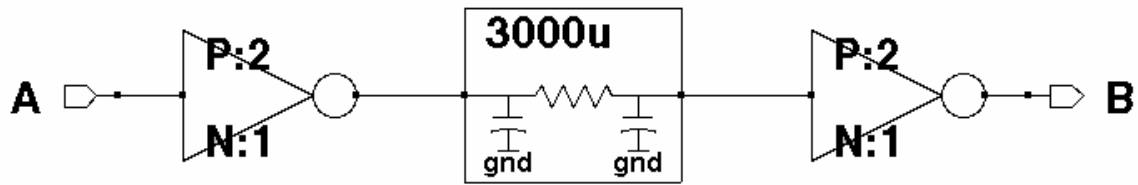

Figure 2.
3. This problem is designed to explain the concept of **buffer insertion**. Design the circuits shown in Figures 2, 3 and 4 in **sue only** and simulate them using their respective testbenches. Use a pulse voltage source at the input terminal in all the testbenches. **Measure the delay from input A to output B in all three cases and comment on the difference in delay, if any.**
Use "wireRC" in sue for RC circuits shown above. Change the length of wireRC to 3000 μm , 1500 μm and 1000 μm for Figures 2, 3 and 4 respectively but use the default value of width ($W=0.9 \mu\text{m}$).